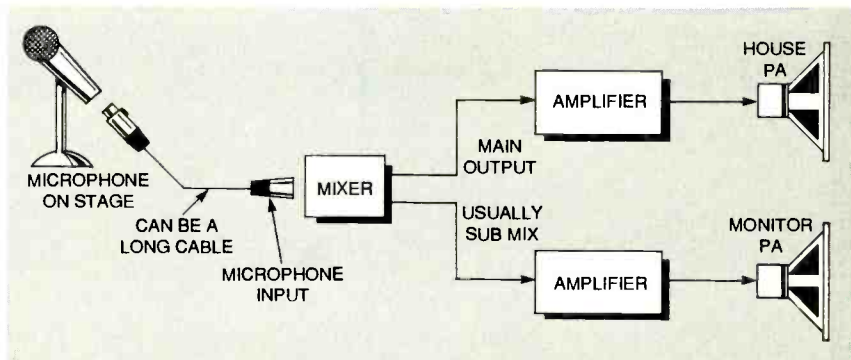

FIG. 1—IN THE BEGINNING all the mixing was done ahead of the amplifiers.
**FIG. 1**—A DRT (LEFT) ELIMINATES the confusing distortion and aliasing sometimes found in conventional DSOs (right), while achieving full bandwidth for repetitive and single-shot events.
simultaneously. The benefit for you is a clear, easily understood display (see Fig. 1) without the confusing distortion and aliasing found in conventional DSOs.